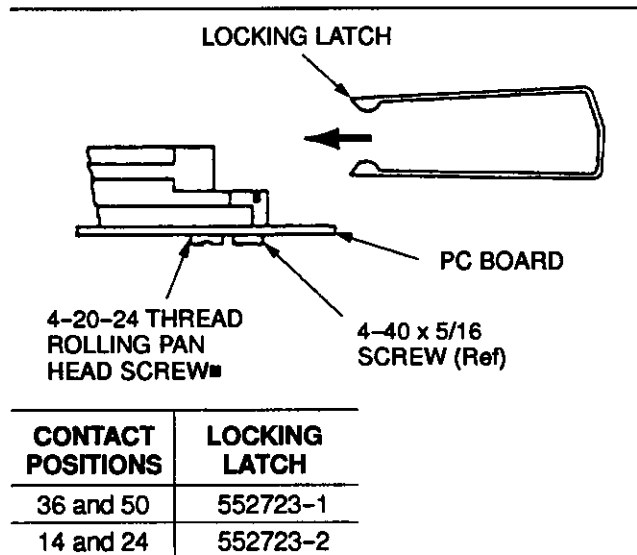

Figure 8
CHAMP ACTION PIN locking hardware assemblies are designed to secure mated connectors (CHAMP cable connector to ACTION PIN pc board connector). Secure ACTION PIN connector to pc board using mounting screws indicated in Figure 8. The available locking hardware assemblies and applications are as follows.
**A. Locking Latch (Figure 8)**